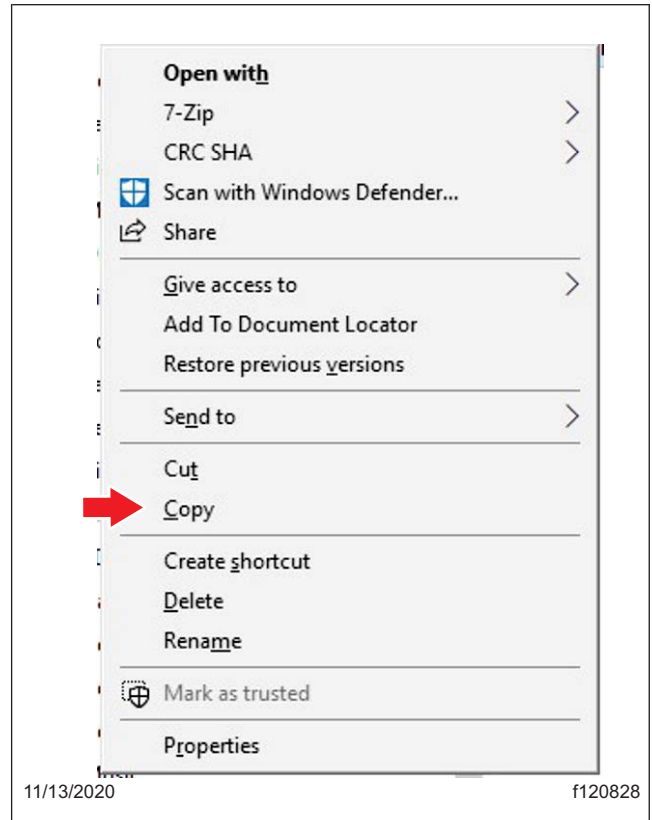

Fig. 10, Selecting Copy
12. Right click and copy the single file inside the 'Step 1 Files' folder. See Fig. 10.